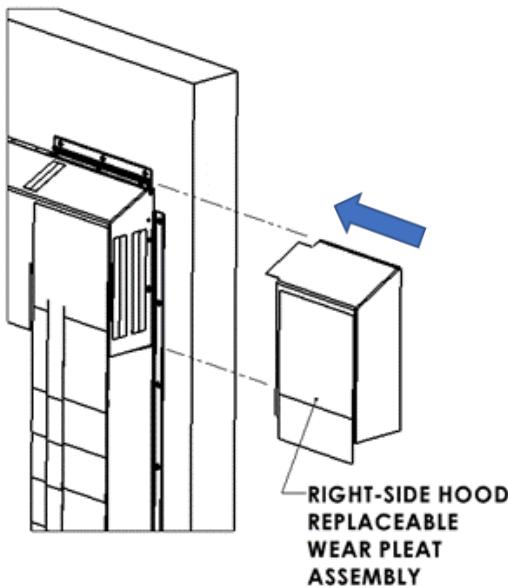

FIGURE 6
- c. Take the Right-Side Hood Replaceable Wear Pleat Assembly and insert the welt horizontally into the outer end of the Short Seal Bracket w/Seal (Figure 6).